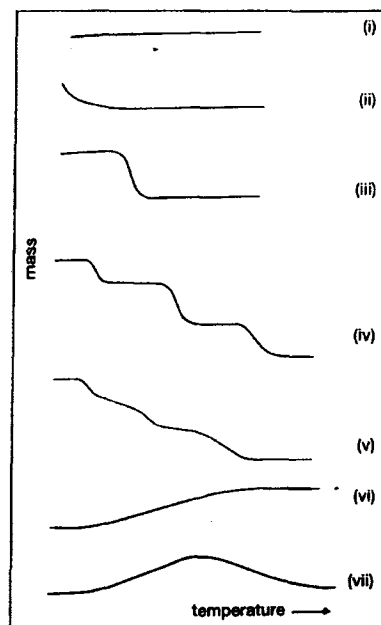

Figure 1 / Rajah 1
- [b] Figure 1 shows typical curves obtained using TGA. Describe the process occurs in those curves (i-vii).